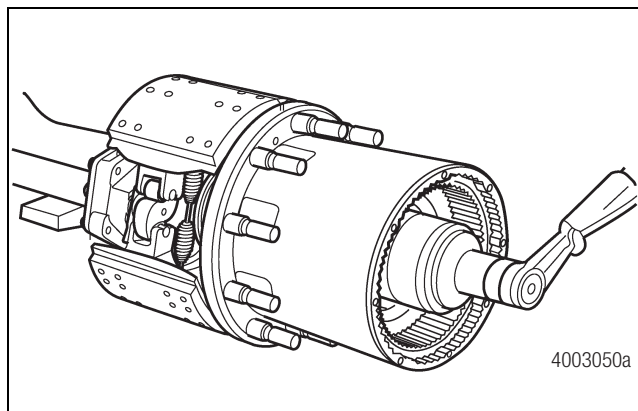

Figure 3.14
2. Use a wheel bearing adjusting nut spanner socket, tool drawing number 5231, to loosen the wheel bearing adjusting nut. Figure 3.14. Refer to Section 8 and Figure 8.9 for instructions to build the tool.